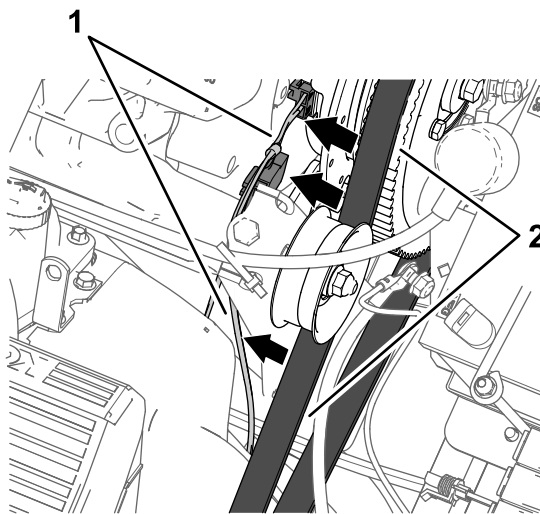

**Figure 169**
2. Connect the 2-pin connector of the kit wire-harness branch—84 cm (33 inches) labeled PUMP CLUTCH into the 2-socket connector of the machine wire-harness labeled SPRAY PUMP COIL (Figure 169).
3. Connect the 2-socket connector of the kit wire-harness labeled PUMP CLUTCH into the 2-pin connector of the alternator (Figure 169).